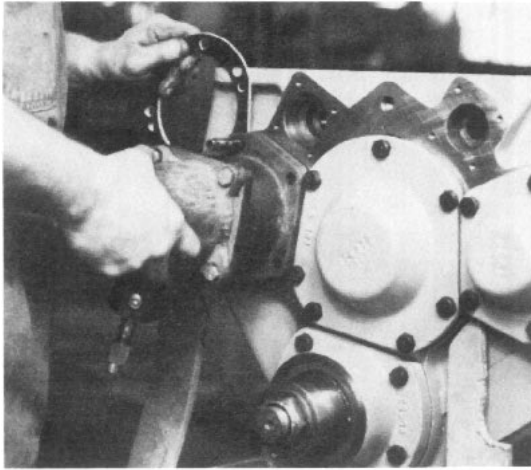

Fig. 33
13. Use feeler gauges to measure the distance between the input shaft rear cap (or PTO assembly) and the case housing (See Fig. 33). Add .005" to this dimension and make a shim pack (Item 16) equal to the dimension thus calculated, or at a maximum, .005" larger than the calculated dimension.